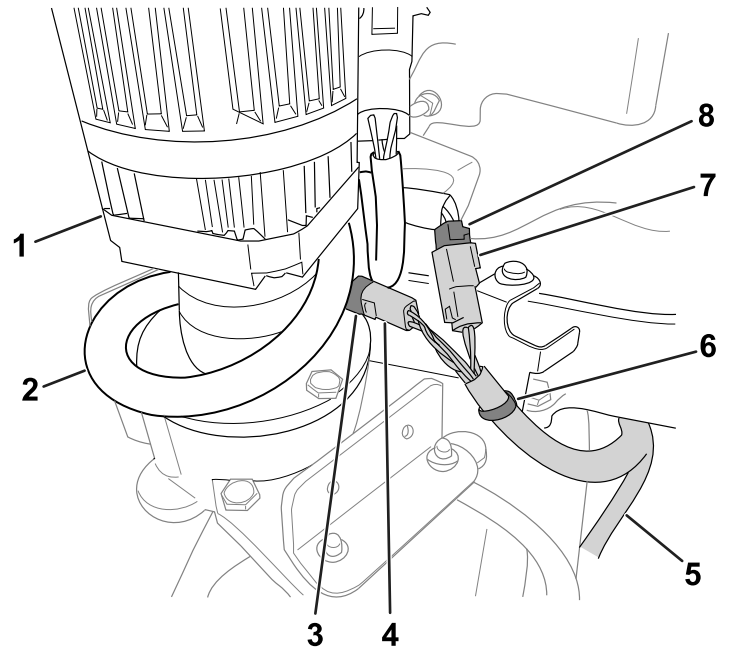

Figure 6
3. Route the remaining gearbox-wire-harness connectors toward the steering motor (Figure 6)
4. Cut the tie wrap that secures the machine harness to the bracket, leaving the push-mount in place (Figure 6). Discard the tie wrap.
5. Connect the gearbox connectors to the machine wire-harness connectors (Figure 6):
6. Wrap the extra machine wire harness slack around the steering motor as shown in Figure 6.
7. Using the tie wrap supplied in the kit, secure the gearbox harness to the push-mount as shown in Figure 6.